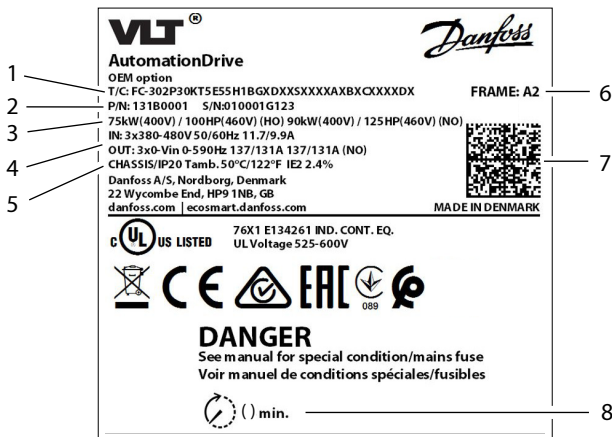

Figure 1: Example of a Product Label
1. Identify the enclosure size. See Figure 1.